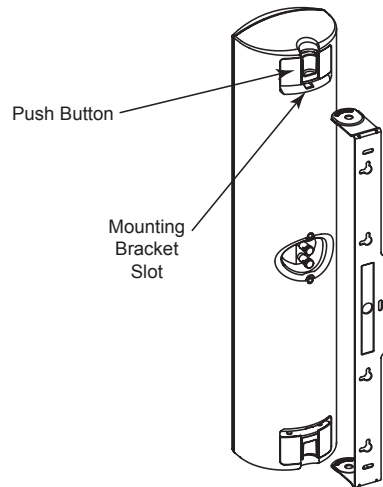

Figure 2
9. Attach the MPP to the mounting bracket by seating the MPP mounting slots, located on each end of the back of the MPP, into the mounting tabs of the bracket as shown in Figure 2. The tabs will "click" into place when the connection is made. Lightly pull forward and side to side on the MPP to ensure a solid connection has been made. To remove the MPP from the mounting bracket, depress both buttons at each end of the back of the MPP and pull the speaker off of the mounting bracket. The MPP should slide off easily. DO NOT force it. Make sure both buttons are depressed completely.